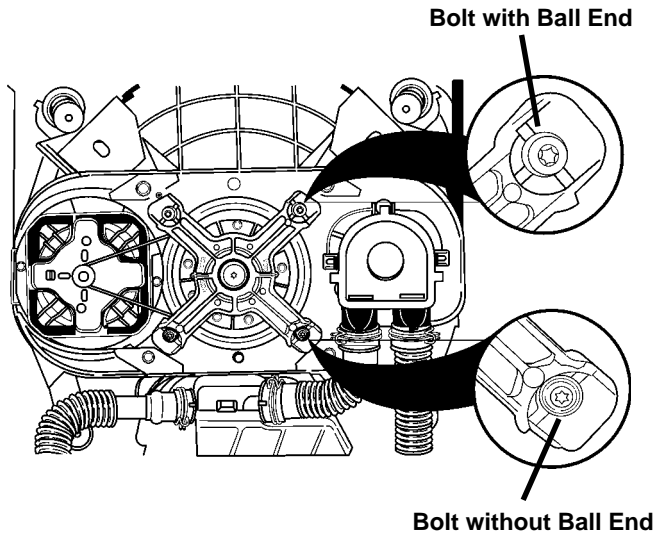

Fig. 3-31
3. Remove the four (4) T-40 Torx head bolts securing the thrust plate to the posts on the motor mounting plate. **NOTE:** The two (2) screws at the top of the bracket have ball ends. (Fig. 3-31)